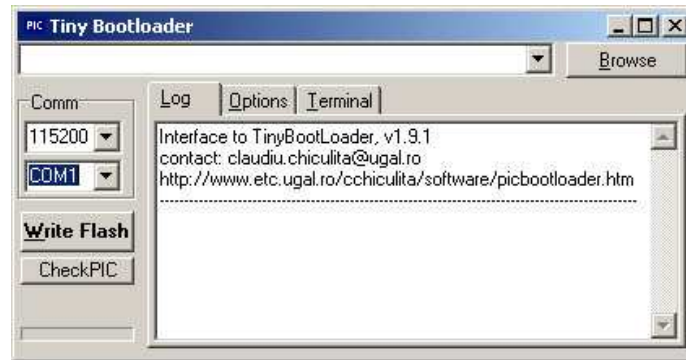

Figure 13: Initial window on the Tiny Bootloader.
2. Click on **Browse** to look for your `.hex` file. You should get the window of figure 13.